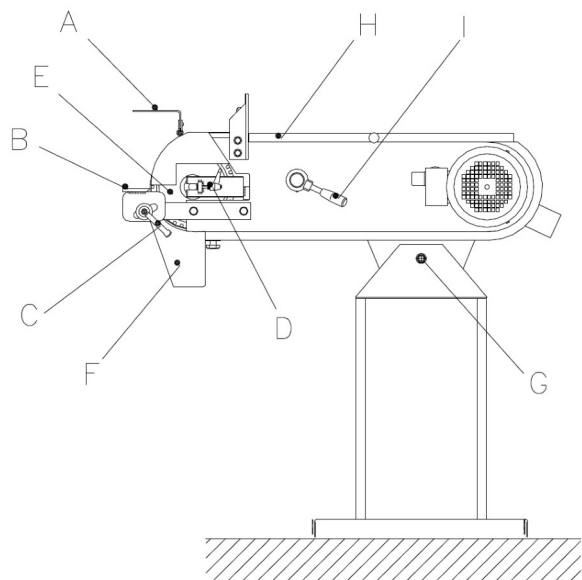

Fig. 3: Device description for the montage
Step 2: Open the lid (H, Fig.3).
The grinding can be done on the contact disc (E, Fig.3).
Step 2: Open the lid (H, Fig. 3).